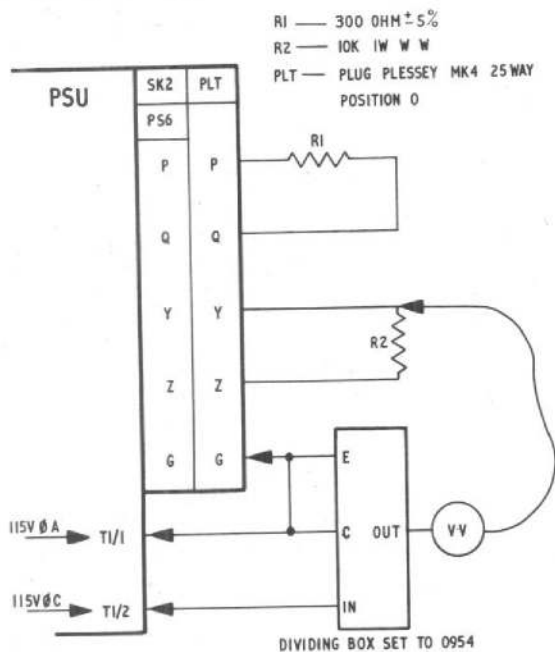

Fig. 1. Setting up RV4 if both 10V(X) and 10V(Y) are out of tolerance (test set, Type 9)
7. In order to avoid confusion between pins on the PSU distribution panel and the Plessey connectors on the front panel, the latter will be referred to throughout this appendix by the nomenclature in brackets of Chap. 9, fig. 1. Distribution panel pins will be referred to by the nomenclature of Chap. 9, fig. 4a.
- (2) Connect up subsidiary test equipment as shown in fig. 1, with pin 1 of transformer T1 connected to pin A of SK9 (PS3) of the distribution panel of test set, Type 9 and pin 2 of transformer T1 connected to pin C of the same socket.
- (3) Switch on PCU MAINS and S1A.
- (4) Set the dividing box to 0954 and adjust RV4 until the valve voltmeter registers a null.
- (5) Adjust the dividing box in each direction in turn to a point where the valve voltmeter reading just starts to increase; if RV4 has